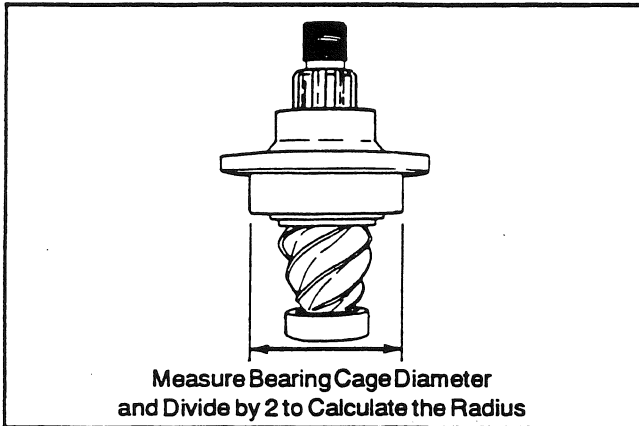

Fig. 37
3. See Fig. 37 and note the radius dimension of your model final drive bearing cage.